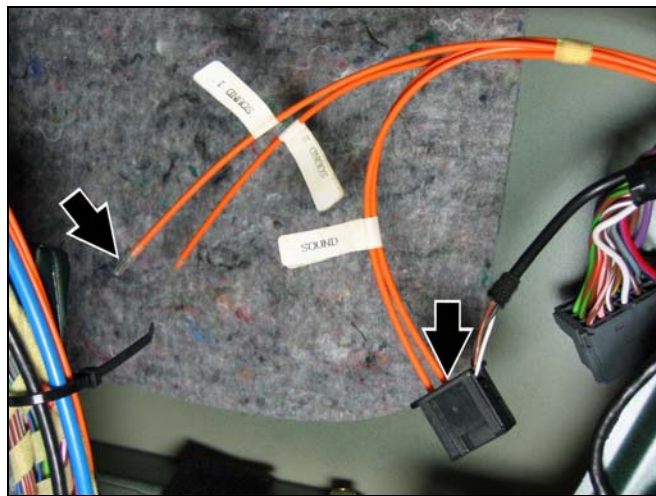

Figure 11
4. At the sound system control module (Figure 11) in the right well of the trunk, configure the MOST ring according to Figure 51.